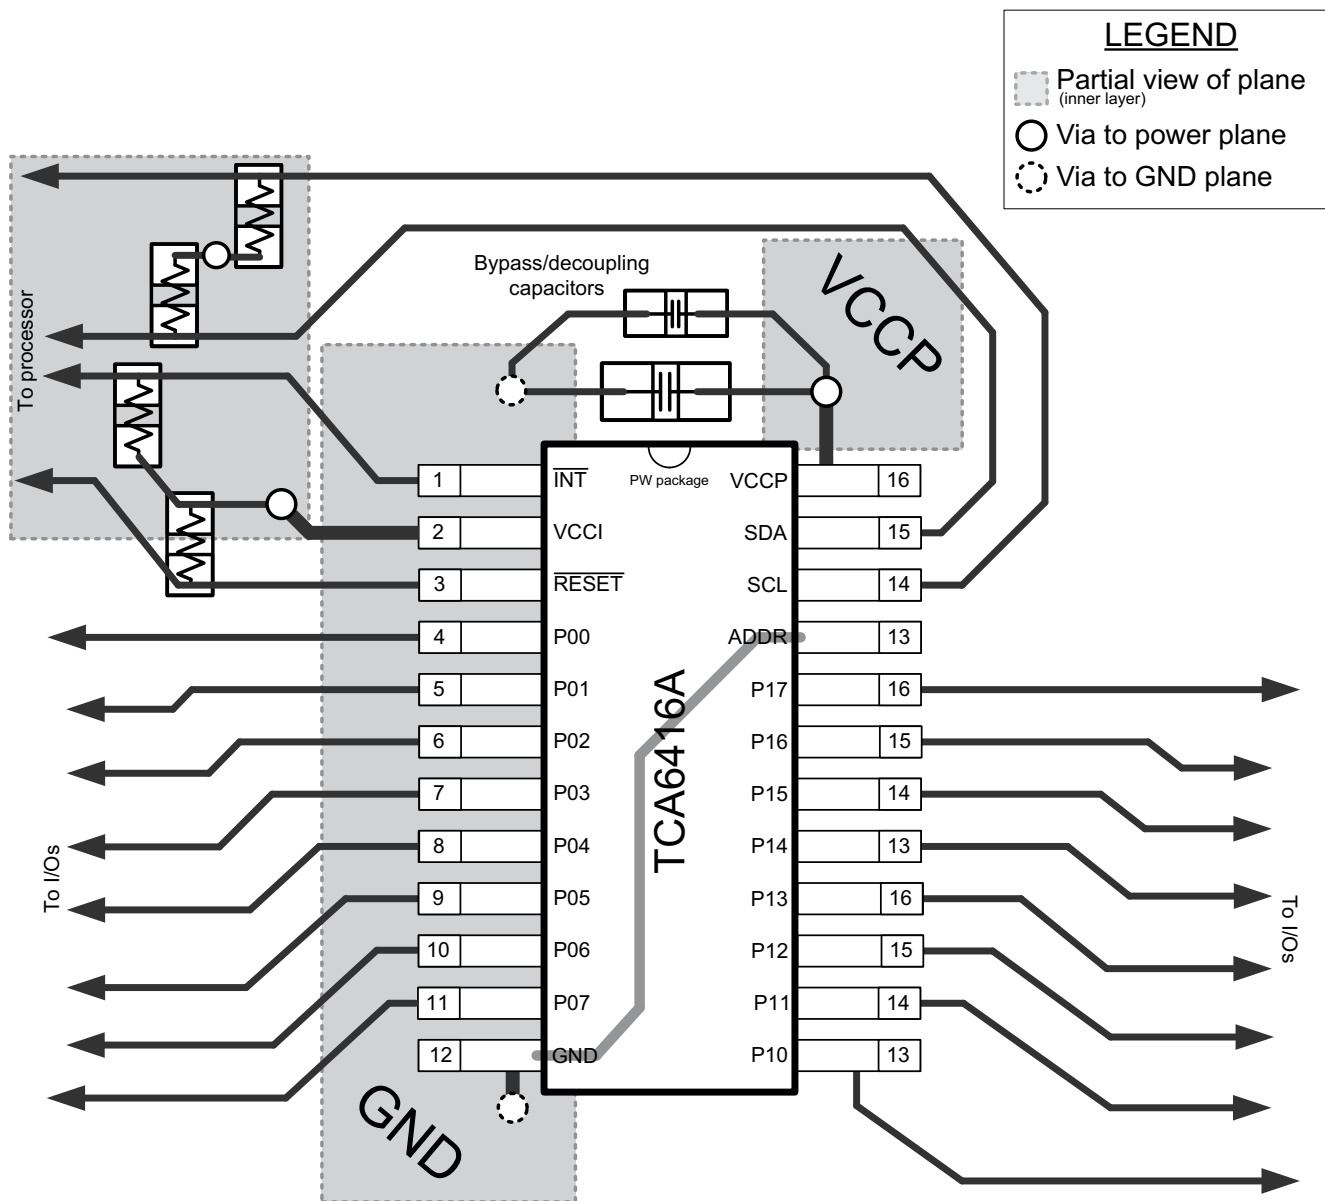

Figure 11-1. TCA6416A Layout
In all PCB layouts, it is a best practice to avoid right angles in signal traces, to fan out signal traces away from each other upon leaving the vicinity of an integrated circuit (IC), and to use thicker trace widths to carry higher amounts of current that commonly pass through power and ground traces. By-pass and de-coupling capacitors are commonly used to control the voltage on the VCCP pin, using a larger capacitor to provide additional power in the event of a short power supply glitch and a smaller capacitor to filter out high-frequency ripple. These capacitors should be placed as close to the TCA6416A as possible. These best practices are shown in Figure 11-1.
For the layout example provided in Figure 11-1, it would be possible to fabricate a PCB with only 2 layers by using the top layer for signal routing and the bottom layer as a split plane for power ( $V_{CCI}$  and  $V_{CCP}$ ) and ground (GND). However, a 4 layer board is preferable for boards with higher density signal routing. On a 4 layer PCB, it is common to route signals on the top and bottom layer, dedicate one internal layer to a ground plane, and dedicate the other internal layer to a power plane. In a board layout using planes or split planes for power and ground, vias are placed directly next to the surface mount component pad which needs to attach to  $V_{CCI}$ ,  $V_{CCP}$ , or GND and the via is connected electrically to the internal layer or the other side of the board. Vias are also used when a signal trace needs to be routed to the opposite side of the board, but this technique is not demonstrated in Figure 11-1.